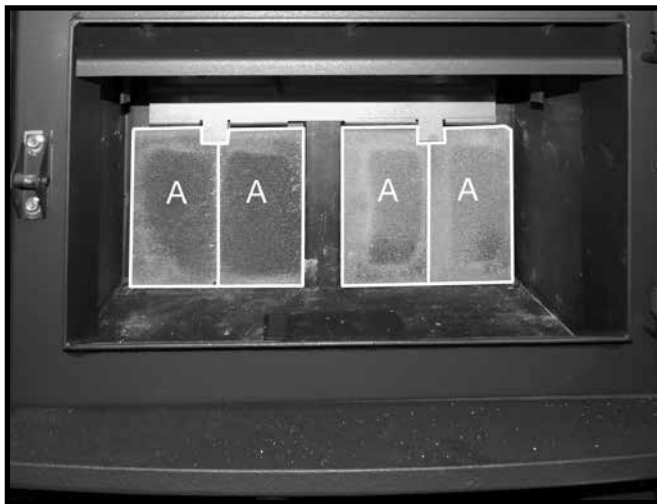

Figure 14. Remaining rear wall firebricks in place.
3. Repeat steps 1 & 2 for the placement of the other "A" firebricks on the rear wall Figure 14.